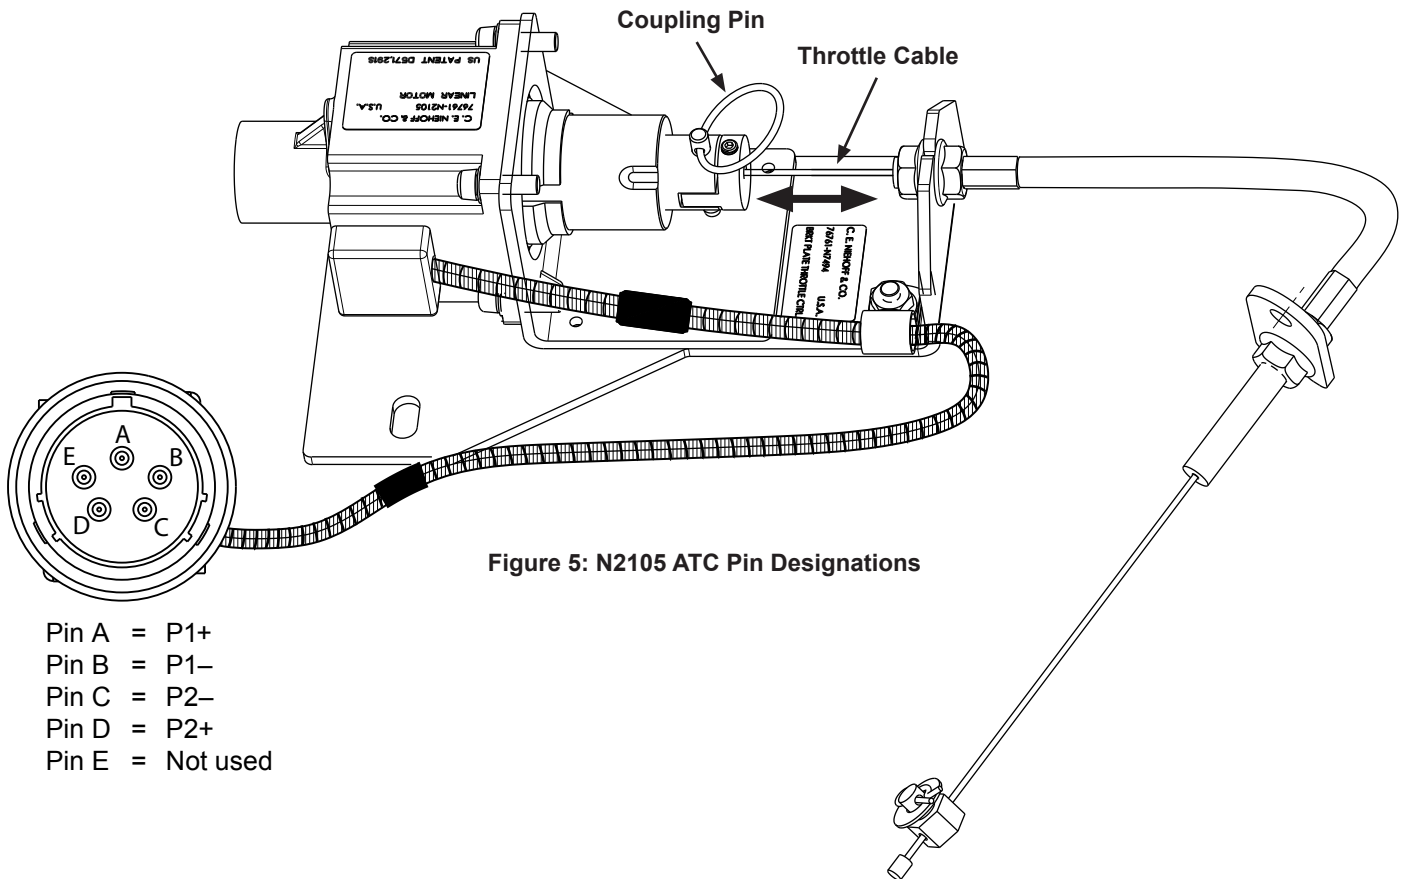

Figure 5: N2105 ATC Pin Designations
2. Set DMM to ohms scale and measure resistance between connector pins as shown in Figures 5 and 6. If one or more of the following tests are out of specification, motor is faulty: